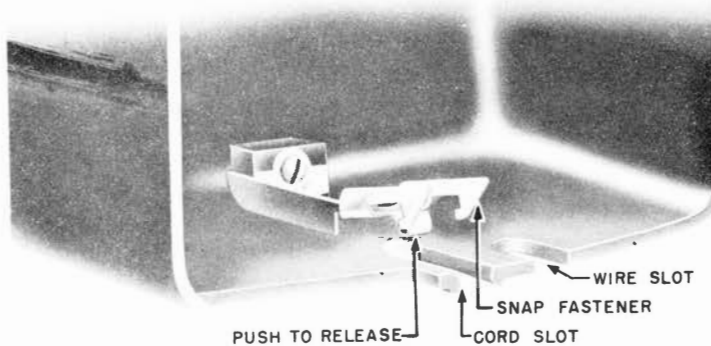

Fig. 20 — Entrance Hole in Housing of 554 Wall-Type Telephone Set
7.05 The 554 wall-type telephone sets have a separate entrance hole provided for inside wire (see Fig. 20).